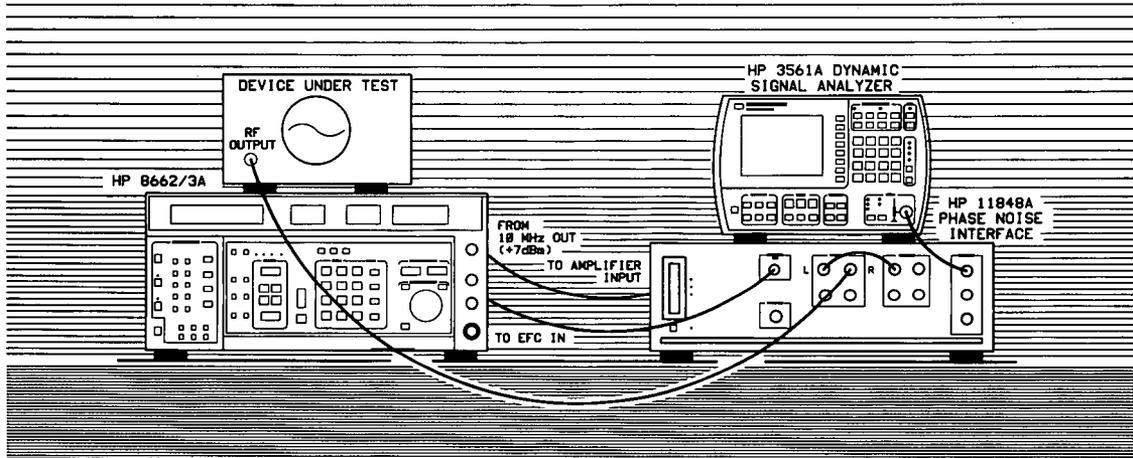

Figure 3-1. Setup Diagram for the 10 MHz Frequency Standard Measurement Example.
3. **When the Connect Diagram appears on the HP 3048A's display, connect the signal paths as shown in Figure 3-1.** (Figure 3-1 differs from the Connect Diagram shown on the HP 3048A's display.) Table 3-2 provides setup considerations that will help you ensure that your measurement results will be valid.